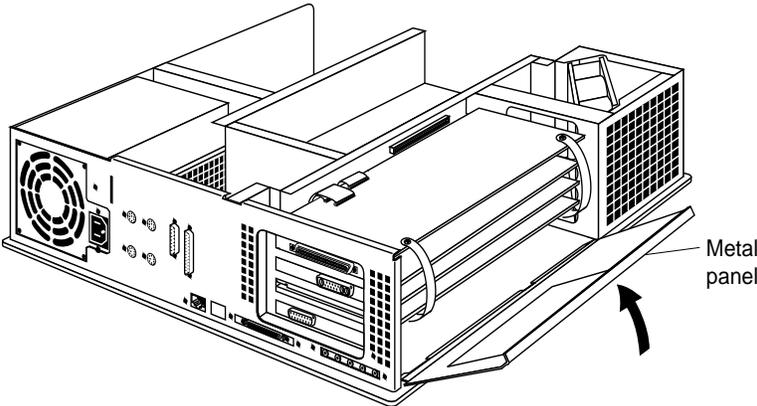

Figure 1-39 Closing the Metal Panel
1. Lift the metal panel and snap it down into place, as shown in Figure 1-39.